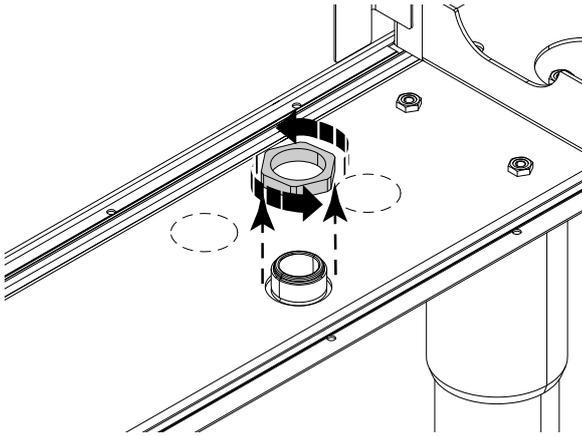

**Fig. 1 Ethernet cable into connector**
4. Insert the Ethernet cable into the factory-fitted connector, refer to Fig. 1 *Ethernet cable into connector*.